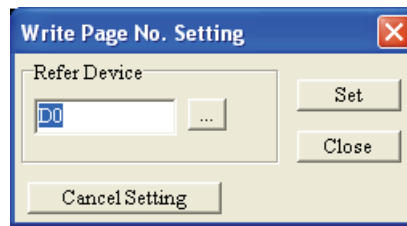

Figure 1-132
Step 2. Then, the following Write Page No. Setting dialog box will appear on the screen (Figure 1-132). The